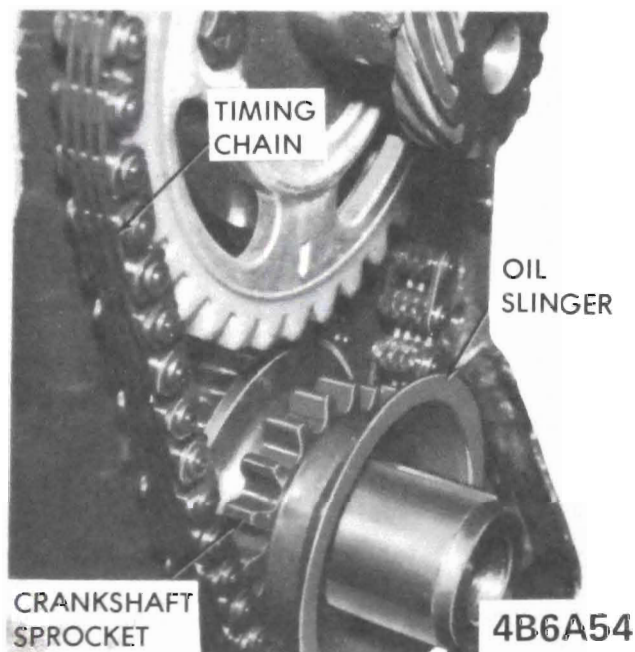

Figure 6A-100 - Oil Slinger Installation
3. Assemble timing chain on sprockets and slide the sprocket and chain assembly on the shafts with the timing marks in their closest together position and in line with the sprocket hubs. See Figure 6A-97.
4. Assemble slinger on crankshaft with I.D. against sprocket (concave side toward front of engine). See Figure 6A-100.
5. Slide fuel pump eccentric on camshaft with oil groove out board of keyway towards front of engine. See Figure 6A-98.
6. Install distributor drive gear. See Figure 6A-98.